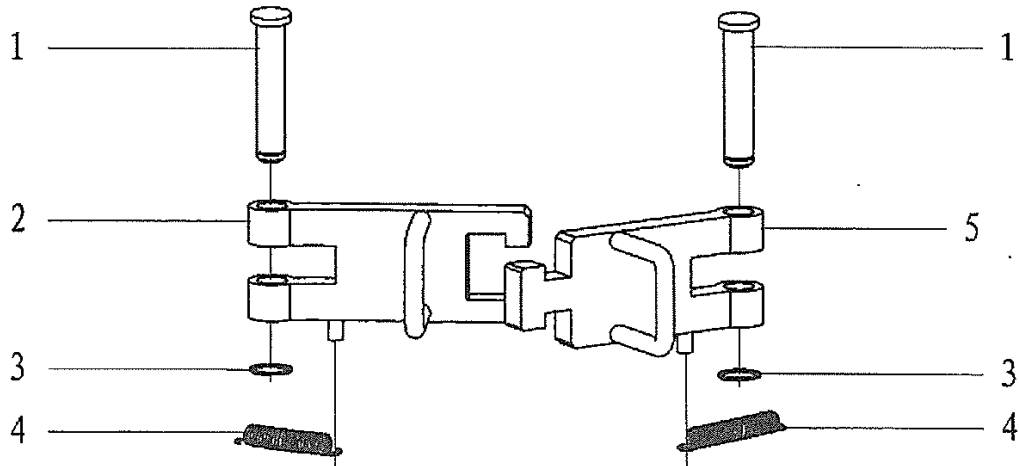

Fig25.
8.14 Backup tong safty door assembly (Fig25. Table25)